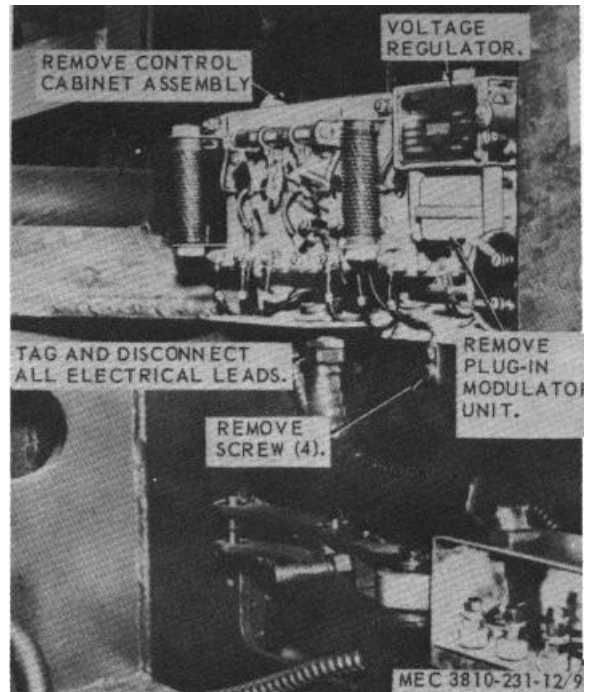

Figure 90. Control cabinet assembly, shown with cover removed.
a. General. The control cabinet (fig. 90) has a circuit breaker that protects the system against overload. Remove cover to reset circuit breaker. The replaceable plug-in voltage regulator unit can be checked by removing leads from terminal (A, fig. 66) on voltage regulator chassis.
b. Removal. Remove the control cabinet assembly as instructed in figure 90.
(1) Clean the exterior with a cloth dampened with an approved cleaning solvent.
(2) Inspect for cracks, breaks, or other damage. Repair or replace a defective control cabinet.
d. Installation. Install the control cabinet as instructed on figure 90.